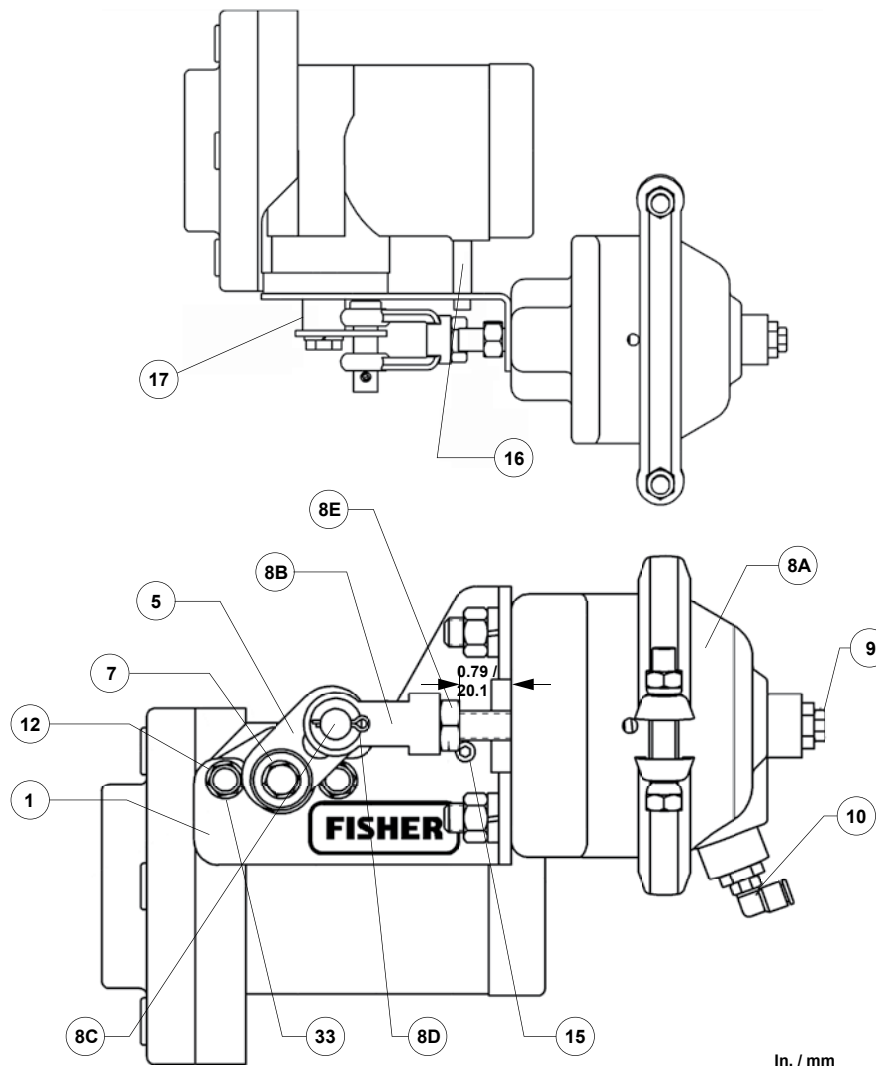

Figure 3. Type P539 Pneumatic Actuator
Refer to Figure 3, **mounting the actuator as following steps:**
1. Mounting the actuator BRACKET the same direction as Figure 3 onto the valve's rear gland. Turn the rear gland plate half rotation clockwise to apply tension to the internal spring. Tighten the two rear gland bolt (key 33). **DO NOT OVER TIGHTEN THE GLAND BOLT** because binding of the ESV shaft could occur. Tighten the gland bolt only enough to prevent leakage.
2. Install the bracket spacer (key 16) and hex bolt (key 15) through hole in the bracket and attach to the N550/N551 Series body.